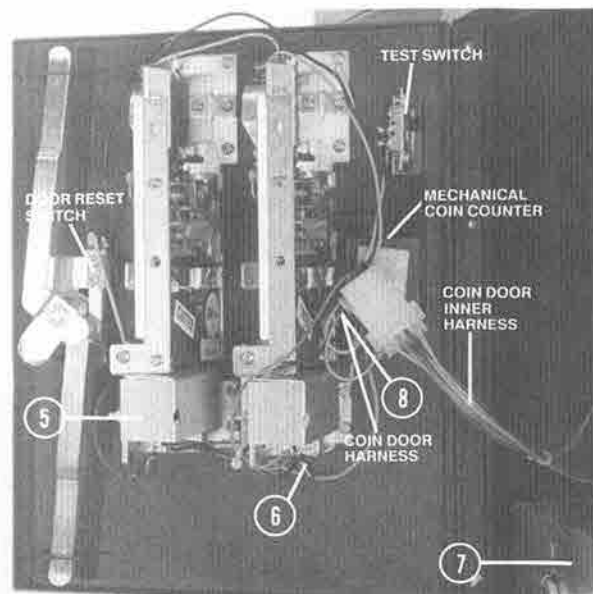

Figure 5. Coin door open showing coin mechanism, reset switch, and test switch
- Inside the coin doors you will find a slam switch, Fig. 5, which when activated will cause the game to reset, and a slide switch which will put the game into test mode when depressed and released.
- target lamps (3)
- remove darts (2) on PC board
- throw darts (2) on PC board